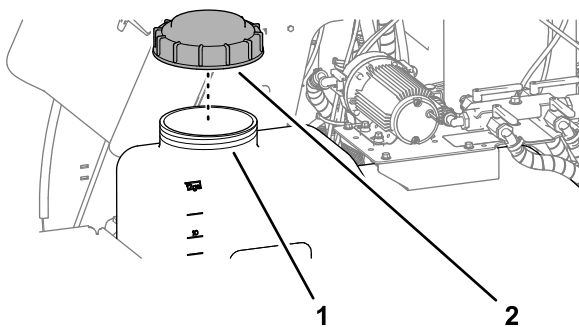

Figure 44
5. Open the tank cap on the spray tank (Figure 44).